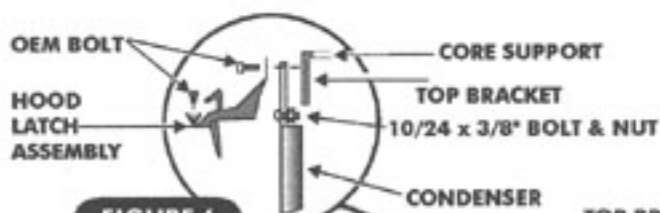

FIGURE 6
- THE TOP BRACKETS GO BETWEEN THE CORE SUPPORT AND THE HOOD LATCH ASSEMBLY SEE FIGURE 6, PG. 4..